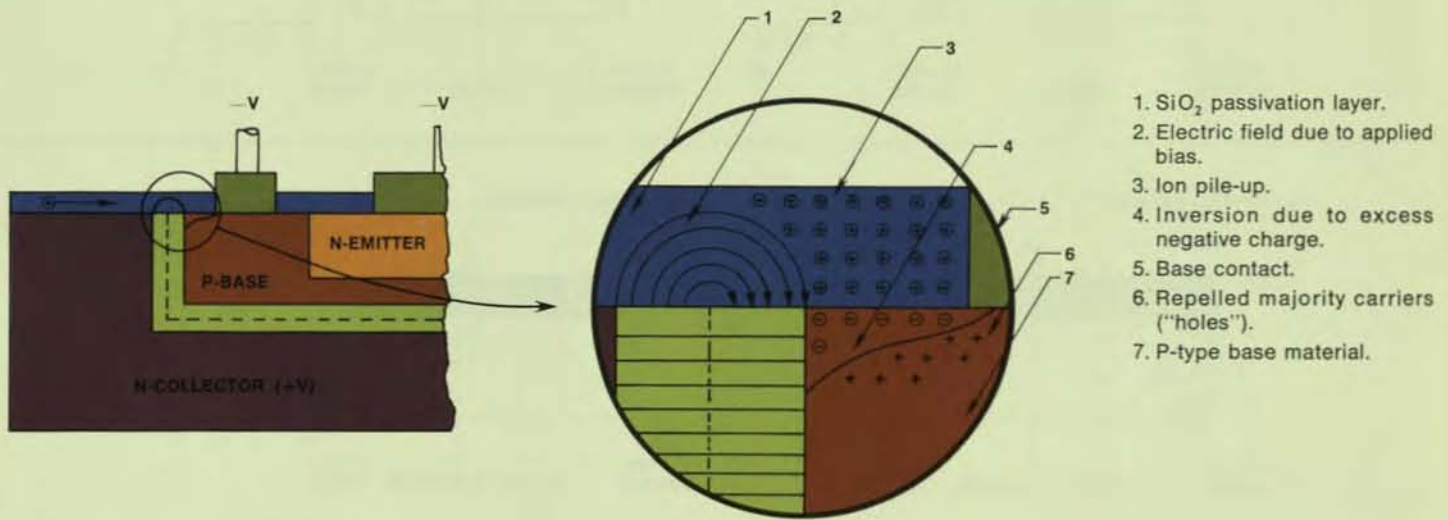

Figure 9a—Typical C-B Junction
The collector-base metal overlay for NPN transistors is similar to the EQR, and is likewise used to inhibit ion migration, inversion layers, channeling, and device failure. Figure 9a illustrates the development of a channel caused by inverted P-type base material. The reasons for this development are as follows. Any impurity ions (contaminants) present in the oxide (1) are attracted to the base contact (5) by the negative polarity of the base bias for a reverse bias condition. When this migration has drawn a sufficient number of ions to the area of the collector-base junction (3), the total positive charge in that region of the oxide repels the mobile positive majority carriers (6) directly below the oxide surface. The immobile, locked-in negative ions create a net negative charge (4) in the area vacated by the mobile majority